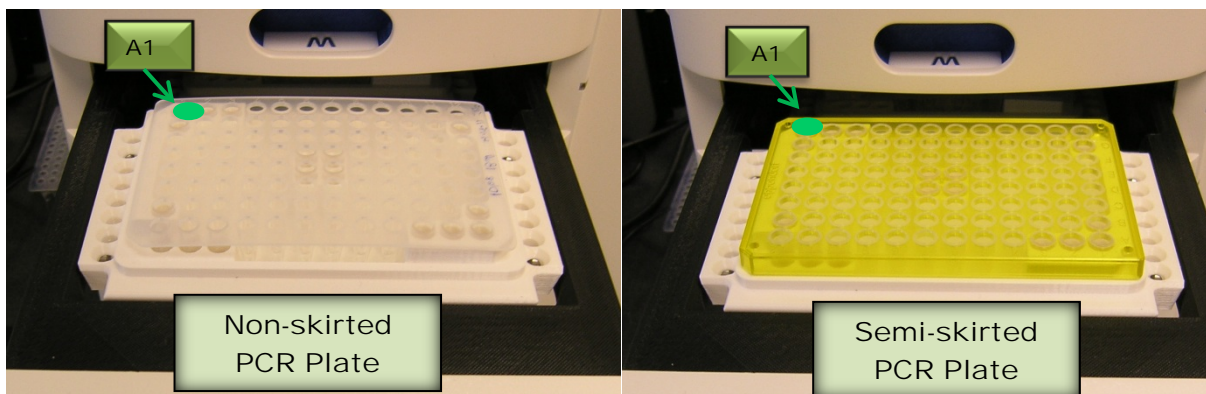

Figure 2-10. Proper loading of a non-skirted (left) or semi-skirted (right) 96-well plate on the tray carrier (Drawers M, 1, 2 and 3)
- ❖ When loading 96-Well Sample or Marker Plates into Drawers M, 1, 2, and 3, a Non-Skirted or Semi-Skirted PCR Plate is used (Fig 2-10).